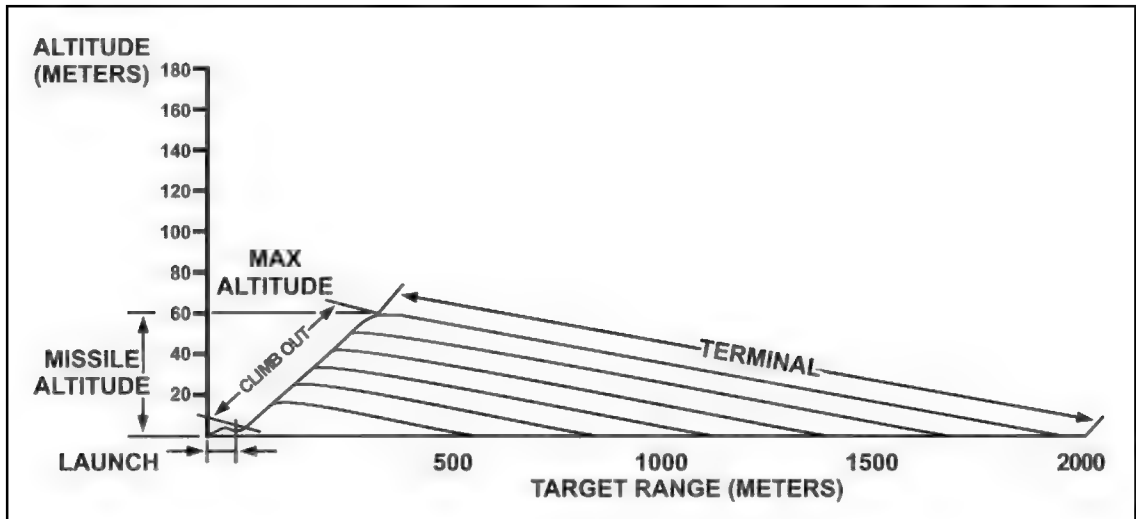

Figure 1-29. Direct attack flight path.
(2) The exact profile of the missile flight path shown in a general configuration in Figure 1-29 depends on the range to the target and is determined automatically by the missile's onboard software. With a 2,000-meter target, the missile reaches a height of